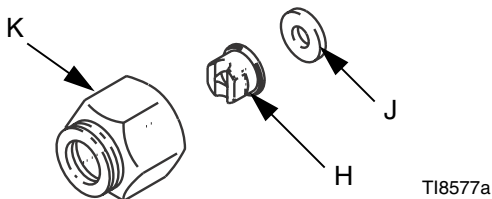

FIG. 7: Install Spray Tip
2. Install the spray tip (H) and the gasket (J) in the tip retainer nut (K). Screw the assembly firmly onto the gun. Tighten the assembly with a wrench. See Fig. 7.
1. To adjust the spray pattern direction with fan tips, orient the slot in the tip horizontally for a horizontal pattern and vertically for a vertical pattern. See Fig. 7.